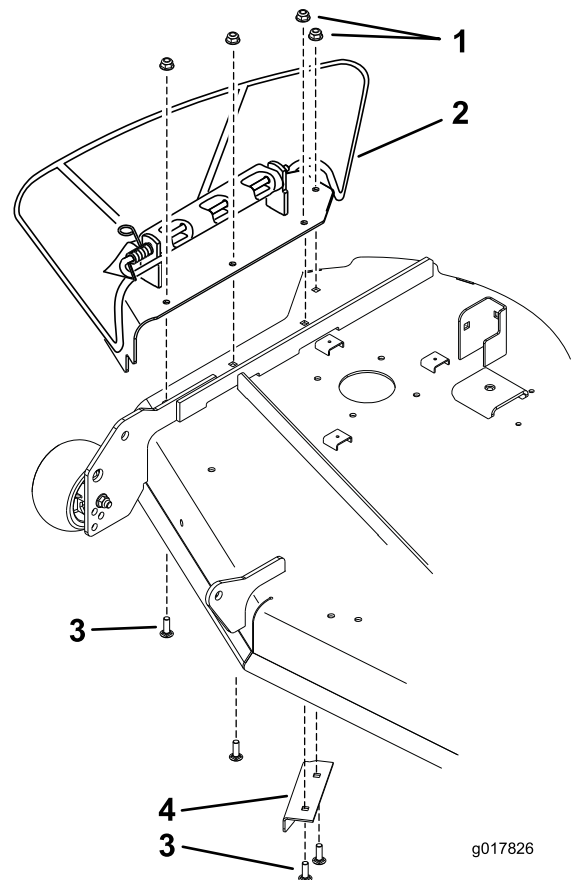

Figure 24
1. Remove the plate assembly that includes the side discharge chute (Figure 24).